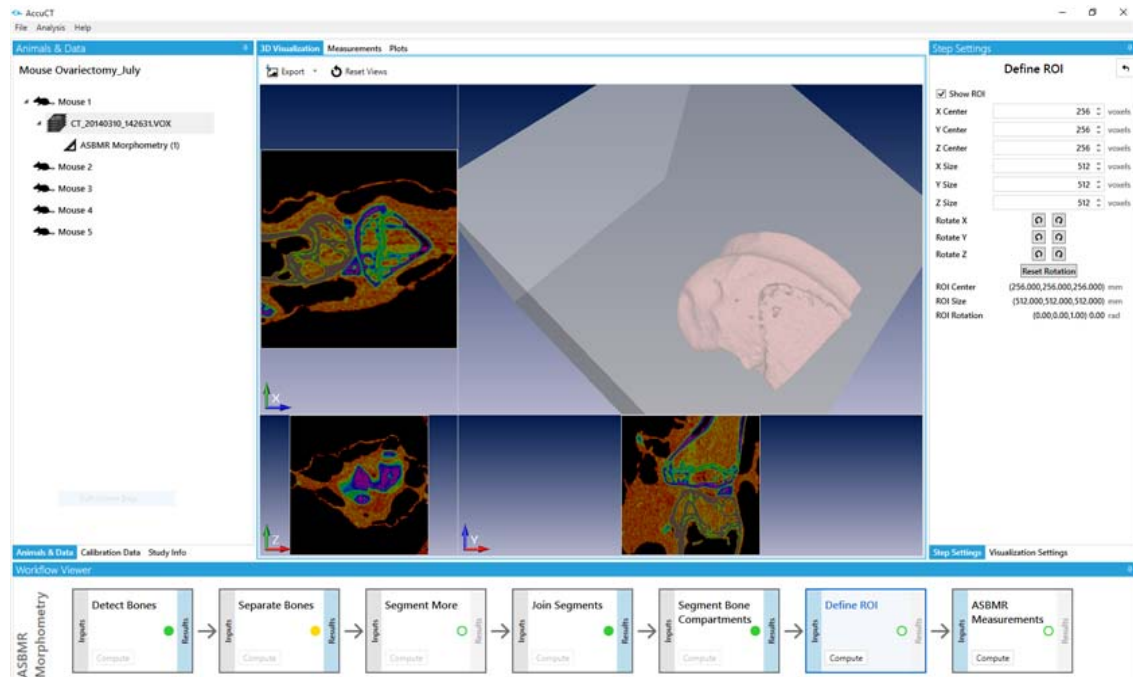

Figure 46. Segment Bone Compartments Step Results
- 10 Click the **Compute** button in the Segment Bone Compartments step box on the Workflow Viewer Tab. The results of the Segment Bone Compartments step display on the AccuCT Main Window and a shaded ROI box displays around the 3D image. See Figure 46.